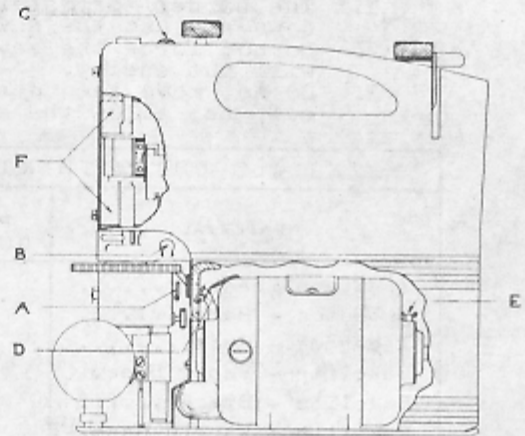

Figure 16
B2--OILING. Reservoirs are provided from which oil is fed by wicks at a slow uniform rate to the bearings. Only Cutawl oil should be used. This is a special oil which will feed indefinitely through wicks without clogging -- USE NO OTHER. Figure 16 shows the five (5) points that require lubrication with Cutawl oil.